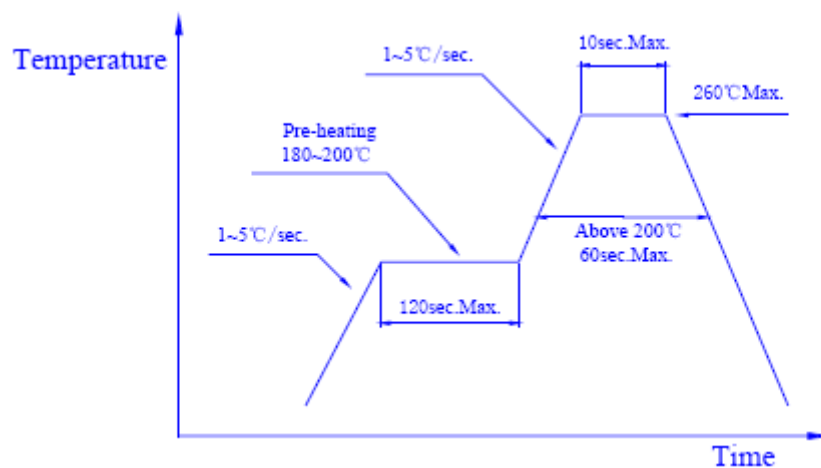

Fig.3
a. The temperature profile as shown in Fig. 3 is recommended for soldering SMD LED by the reflow furnace.